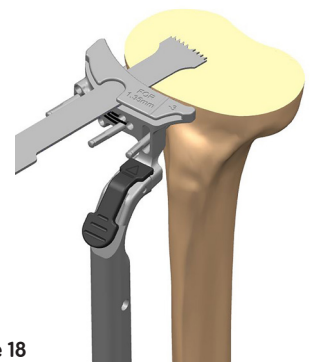

Figure 18
2. Remove the Tibia Stylus. Resect the proximal tibia (Figure 18) and remove the cutting guide.